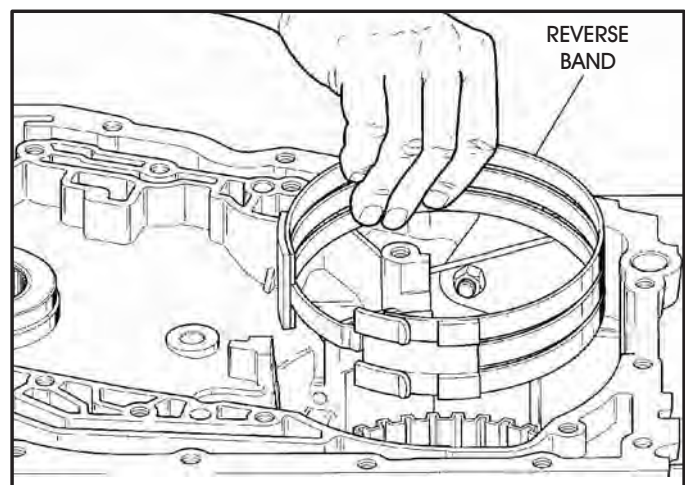

Figure 177
26. Install the reverse band into the transaxle case, as shown in Figure 177, ensuring that band is engaged on case band anchor.